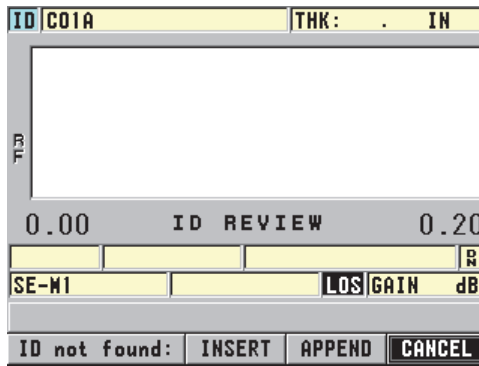

Figure 6-38 The message when the edited ID is not in the database
6. When the edited ID is not in the database, the help text bar message shown in Figure 6-38 on page 129 appears. Select **INSERT** to insert the new ID in front of the active ID.